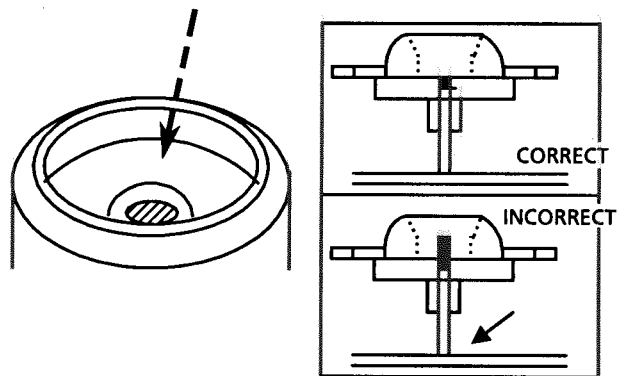

Fig 13
- (12)After inserting the turntable, bond the motor shaft and turntable together (at the section marked by an arrow in fig 13 on the left below).
- (13)Use "LOCKTITE" #460 bonding agent, and apply as little as possible. Take care not to allow any excess bonding agent to get onto the turntable. Be extremely careful not to allow bonding agent to adhere to the motor bearing (the section marked by an allow in fig 13 on the right).